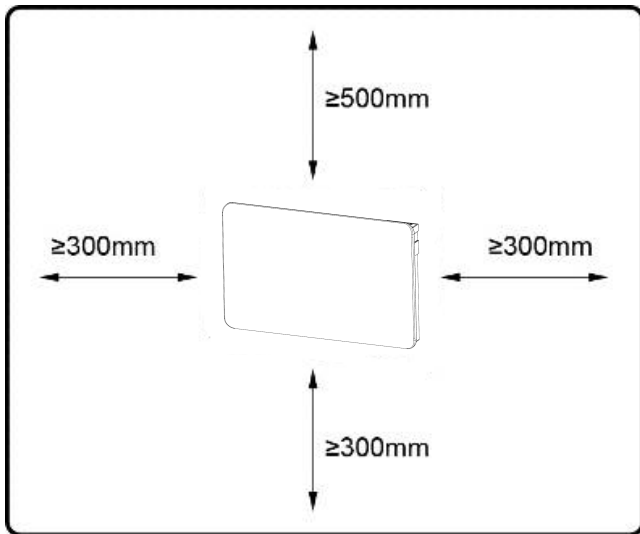

Fig. 1
1. Be sure to keep the distance between the heater and floor, wall and so on at least 30cm as Fig 1.